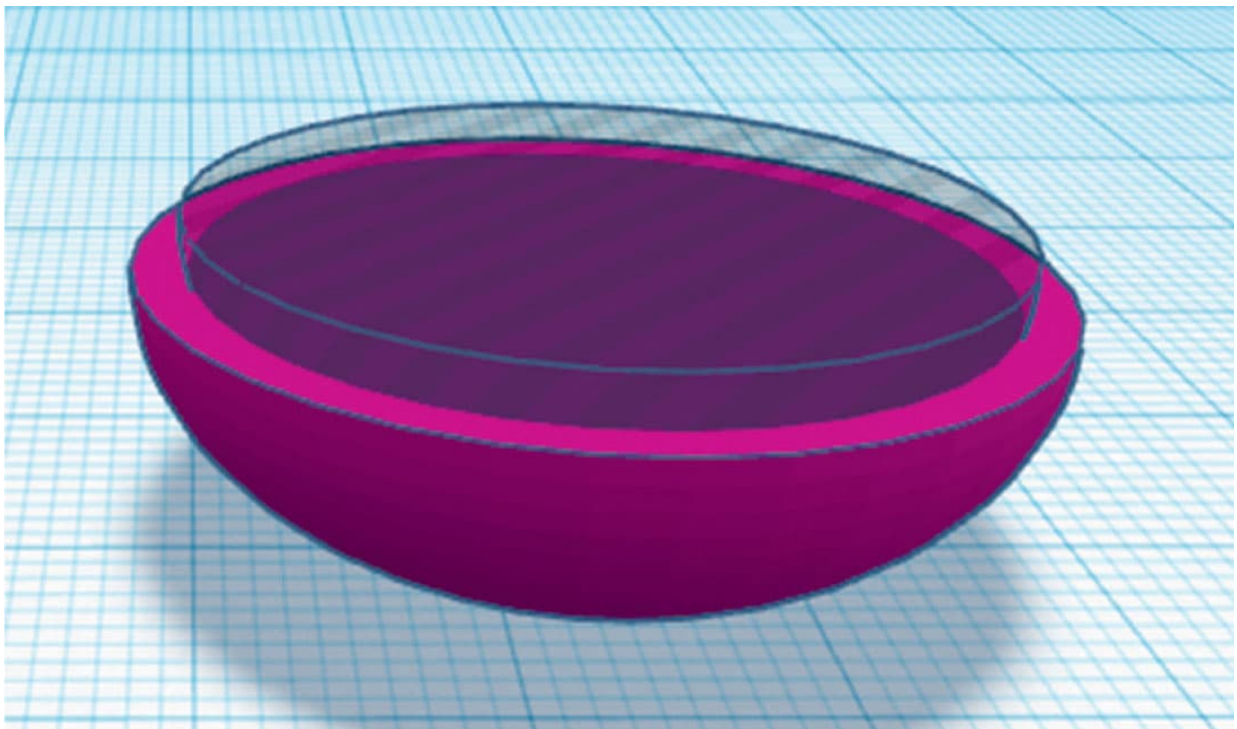

FIG. 2: Overlap the two spheres and rotate so the flat side is facing up.
2. Overlap the two spheres so they are concentric (with the smaller one inside the larger one). We are creating a spoon of wall thickness roughly 1.5 mm . Rotate the overlapping spheres together so the flat side is on top as shown in fig. 2.